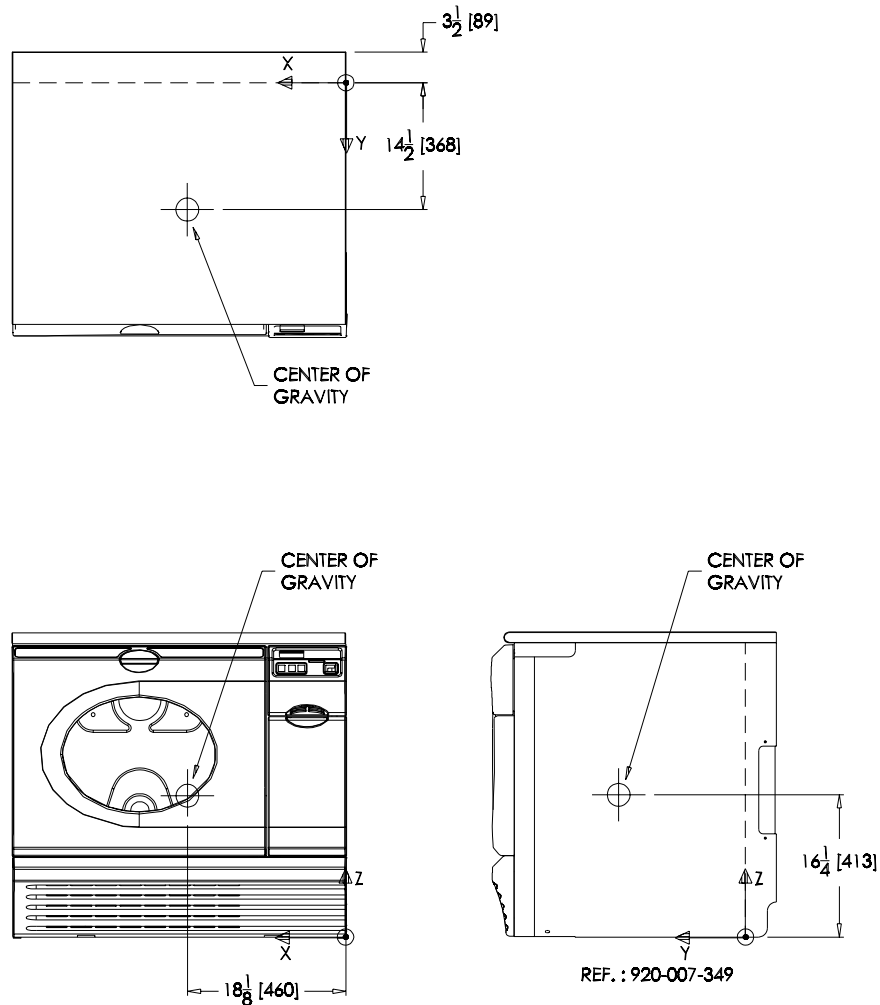

Figure 2-4. Center of Gravity
12. With unit still mounted on skid, use a forklift or pallet truck to move equipment to installation site. Verify for center of gravity for safe handling (see Figure 2-4).